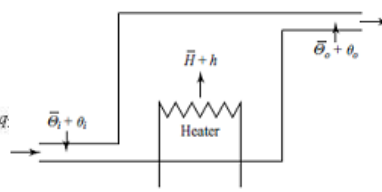

Fig.Q.1B
- 1B.** Considering small deviations from steady-state operation, write the differential equations and draw a block diagram of the air heating system shown in Fig.Q.1B. Assume that the heat loss to the surroundings and the heat capacitance of the metal parts of the heater are negligible. 3